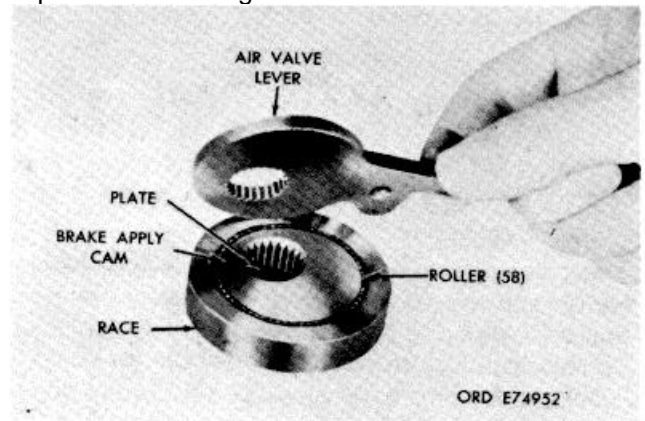

Figure 7-61. Components of left brake assembly, showing relation of parts.
- a. If hexagon-head plugs (38) were removed from housing cover (37), install plugs.
- c. If pins (80) were removed from brake apply body (82), install new ones. Press pins (81) into body (82), 0.060 inch below the surface of the body and stake securely.
- d. If bearing (83) was removed from brake apply body (82), install a new bearing. Install the bearing, pressing against the numbered side, 0.060 to 0.070 inch above the oil port relief surface of the body.
- e. If bearing (80) was removed from brake apply body (82), install a new bearing. Install the bearing, pressing against the numbered side of the bearing, flush with, to 0.010 inch below, the surface of the body .
- f. Install signal valve (95), small end first, into brake apply body (82).
- g. Install signal valve spring (96) and washer (97) into brake apply body (82) and secure washer (97) with retaining ring (98).
- h. Apply a coating of oil-soluble grease to needle bearing race (87), cam (88,) and rollers (90).
- i. Place the brake apply cam side plate (89) on the assembly table and position brake cam (88) on the plate. Refer to figure 7-61.
- j. Place bearing race (87, FO-13) over cam (88) and install 58 rollers (90) between the cam and race. Refer to figure 7-61.
- k. Place the brake air valve lever onto the components (fig. 7-61), as shown.